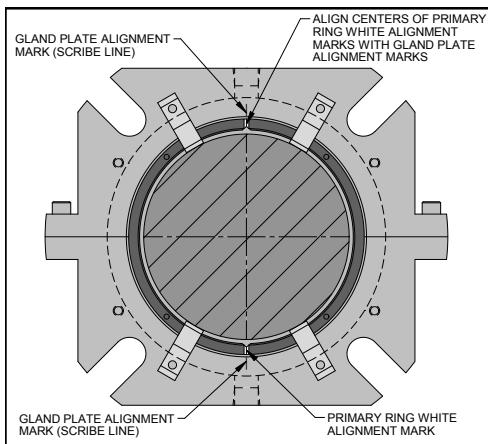

Figure 18
4. Locate the white alignment marks at the primary ring split joints so that they will line up with the gland plate assembly alignment marks when the first half of the gland plate assembly is installed. The gland plate assembly alignment marks are scribe lines located 90° from the gland plate assembly split surfaces. Figure 18.
6. Align the nearest primary ring white alignment mark with gland plate half alignment mark. The gland plate alignment marks are scribe lines located 90° from the gland plate split surfaces. Figure 18.
9. Ensure the centers of the primary white alignment marks are aligned with the gland plate alignment marks (Figure 18). Adjust the primary ring alignment by slightly rotating the primary ring within the gland plate assembly if necessary.